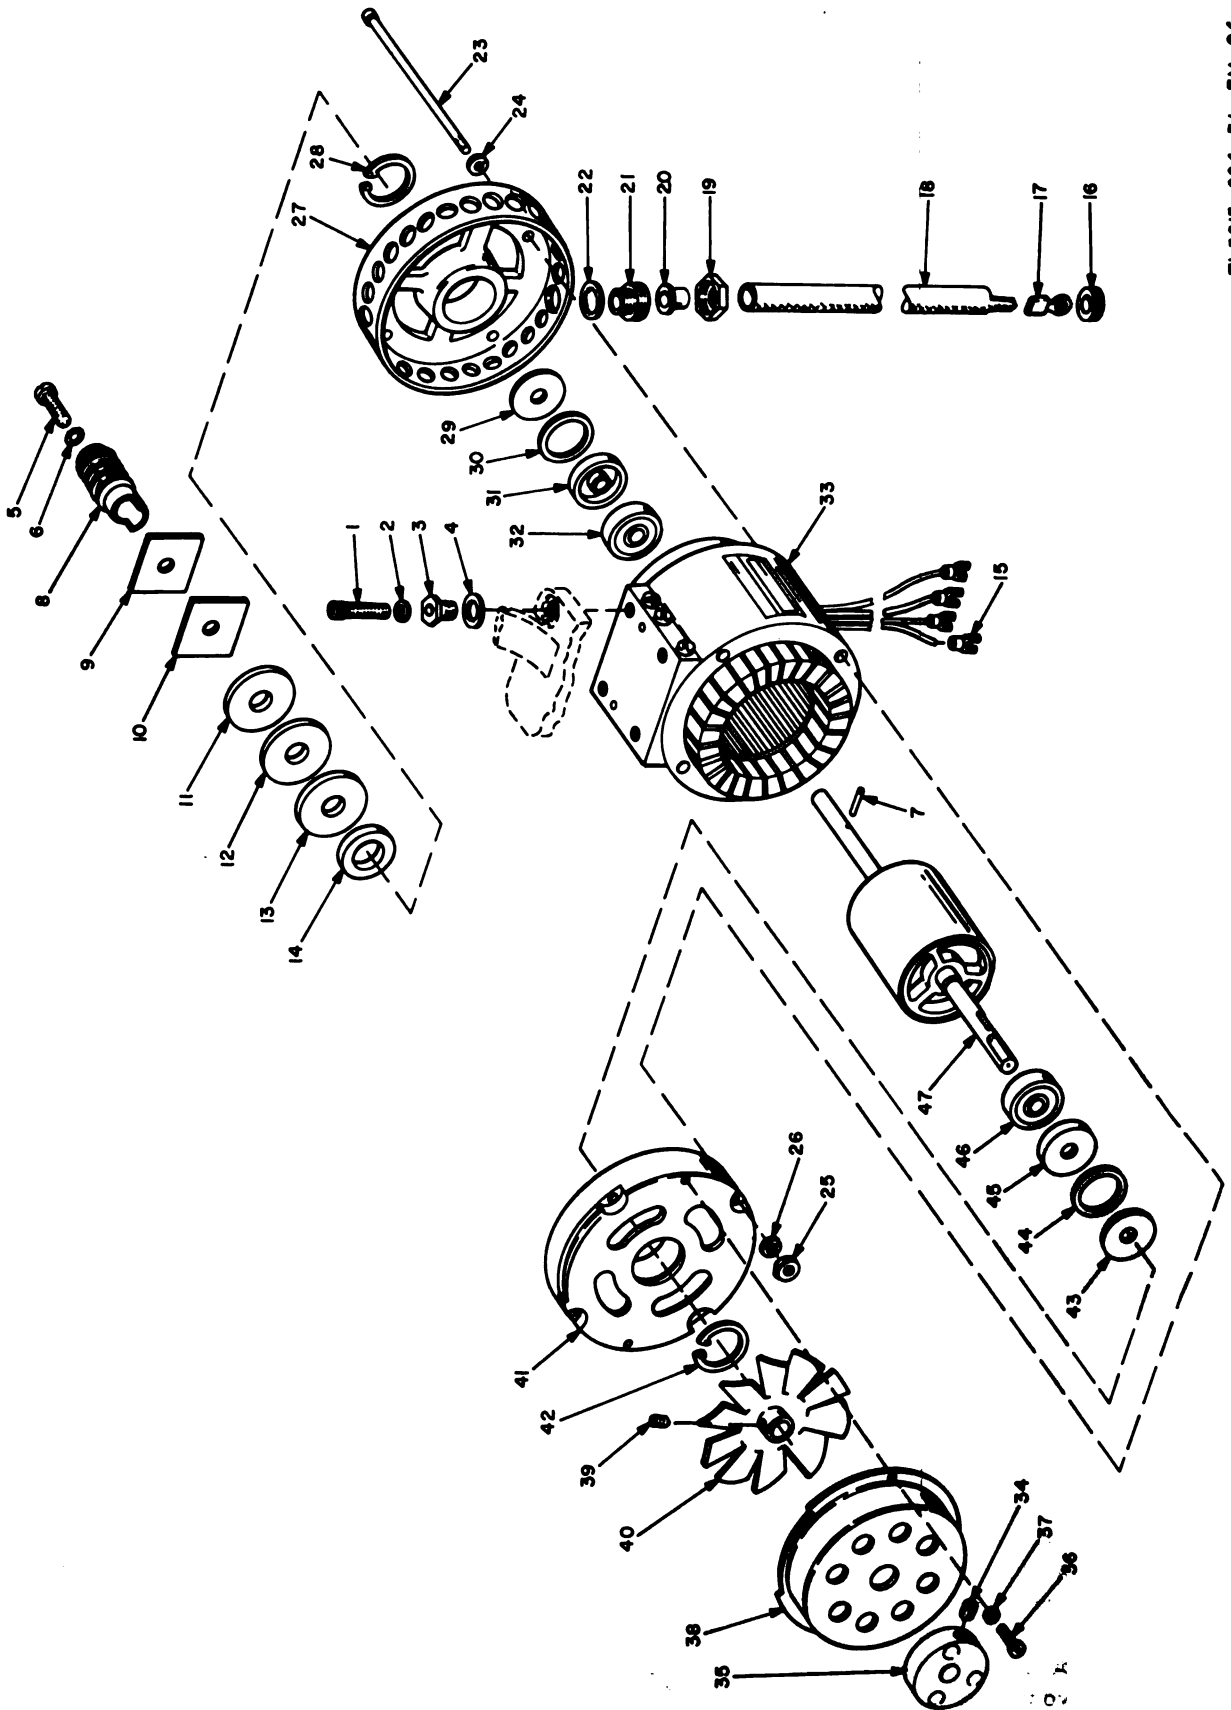

Figure 3-24. Motor assembly, exploded view (TT-335/TC and TT-537/O).
(fig. 3-24)
- (1) Remove the motor (para 3-26c).
- (2) Remove the three sleeves (3, fig. 3-24) and lockwashers from the teletypewriter frame.
- (3) Remove the machine screw and lockwasher that hold the worm (8) on the rotor shaft (47); remove the worm.
- (4) Remove the pin, seals and felts from the rotor shaft.
- (5) Unsolder the four terminals (15) from the motor. Unsolder the terminal from the shielding.
- (6) Remove the grommet (16) from the shielding (18).
- (7) Remove the cap (19) that holds the shielding and eyelet (20) to the nipple (21).
- (8) Remove the nipple and lockwasher from the end cap.
- (9) Remove the four machine screws (23), hexagonal nuts, and lockwashers that hold the end cap (27) on the stator assembly.
- (10) Remove the end cap from the rotor shaft. Remove the retainer ring (28) from the end cap.
- (11) Remove the shim (29), spacer, grease seal, and ball bearing (32) from the rotor shaft.
- (12) Remove the setscrew that holds the target (35) on the rotor shaft; remove the target.
KEY to fig. 3-24: